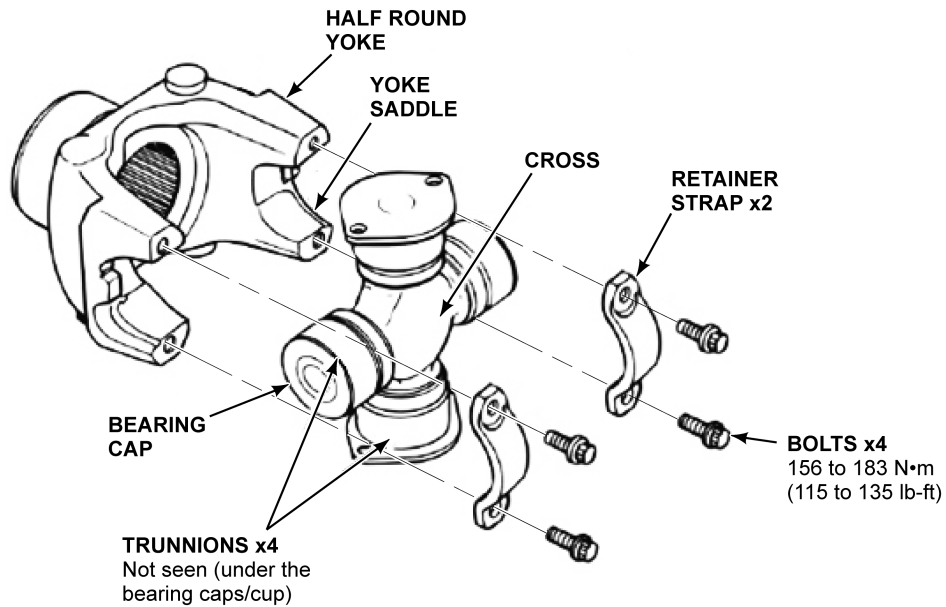

Figure 2.
- Follow manufacturer's torque procedure and specifications. Refer to Figure 2.